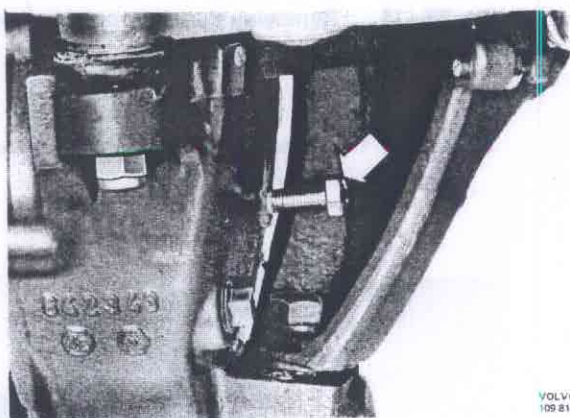

Fig. 77-5. Pressing out the hub
6. Remove the plug on the reverse side of the wheel carrier housing and screw in a M10 bolt with thread length minimum 50 mm (2"), see Fig. 77-5. Screw in the bolt so that the hub releases fully.